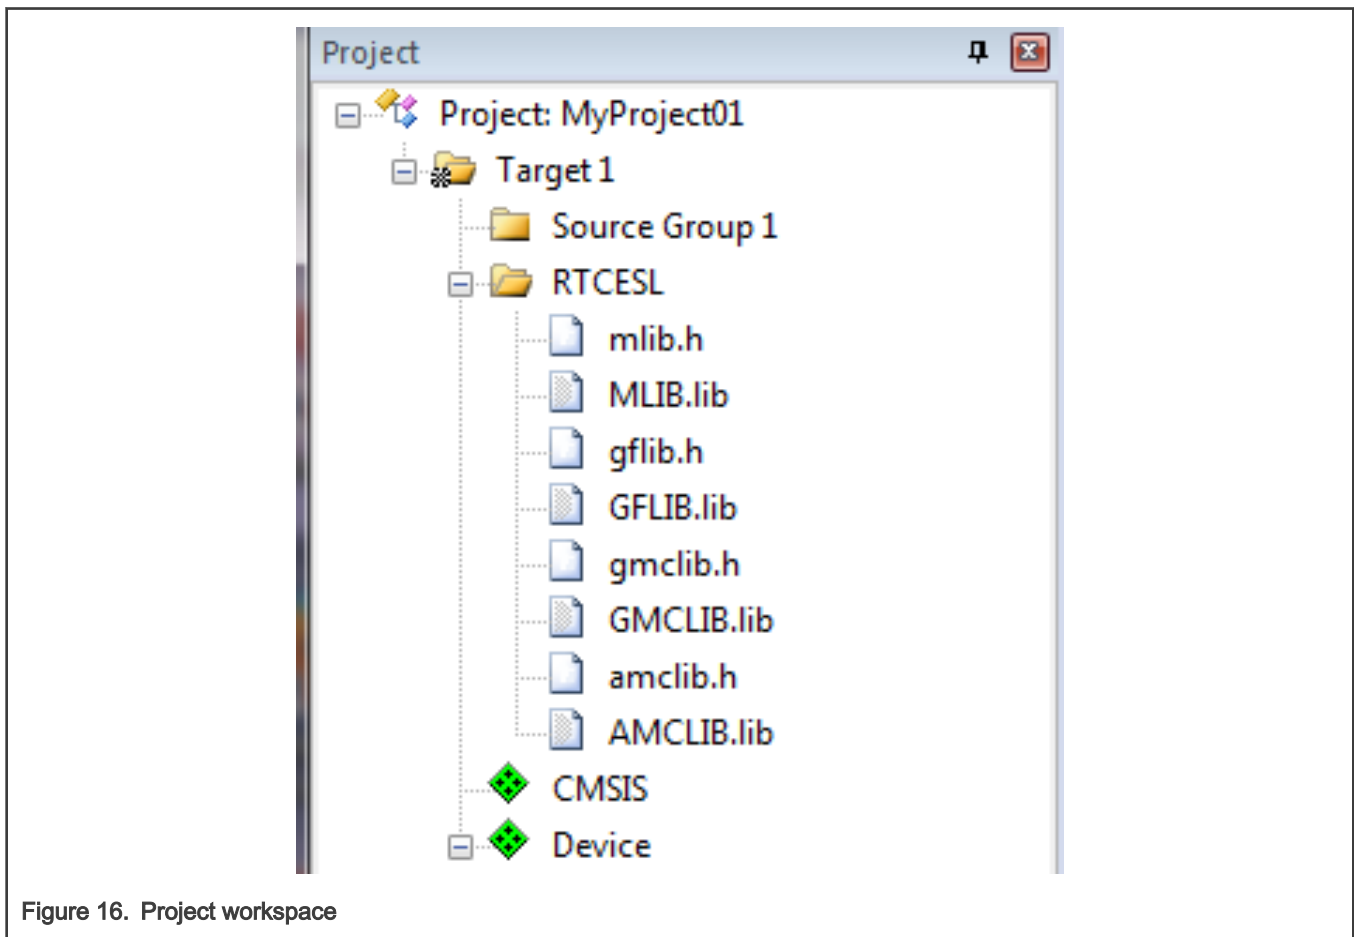

Figure 16. Project workspace
14. Now, all necessary files are in the project tree; see Figure 16. Click Close.